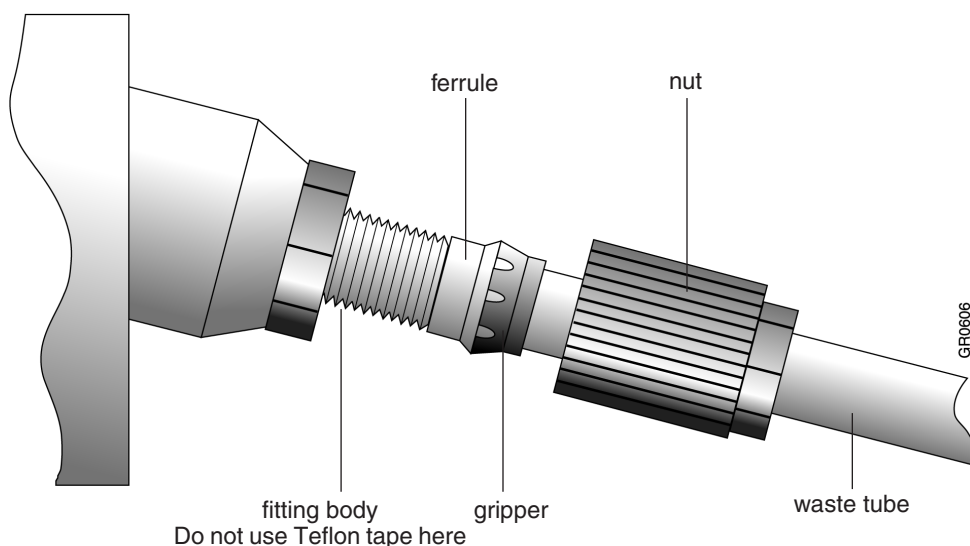

Figure 6-15. Fitting body with ferrule and gripper (style A)
7. Insert the waste tube into the fitting body until the internal tube stop is reached (Figure 6-15).